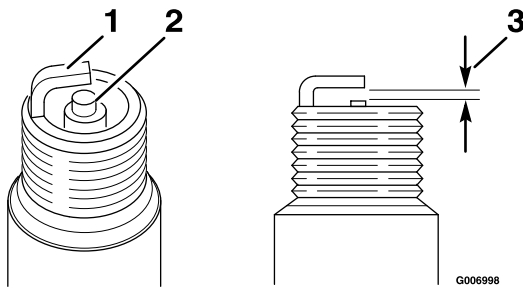

Figure 24
5. Set the gap on the plug to 0.76 mm (0.030 inch) as shown in Figure 24.